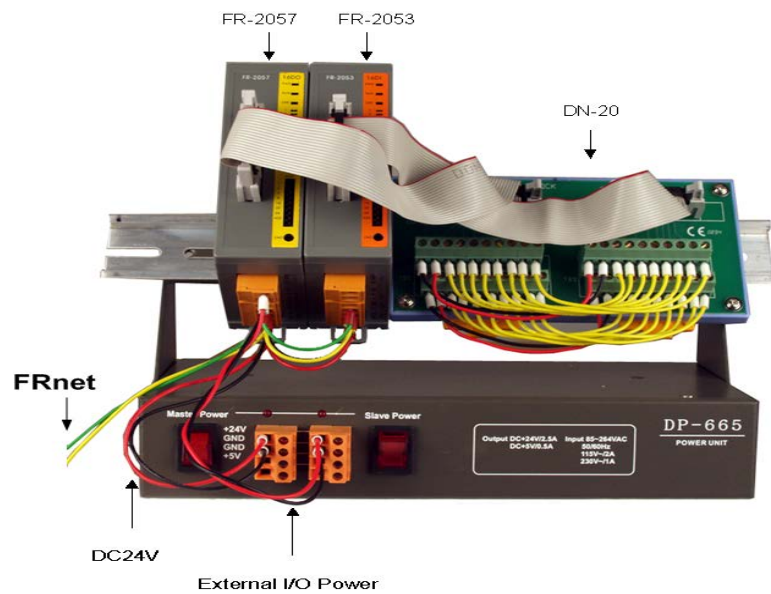

Figure 7.1
- Step 1: Connect the FR-2053 and the FR-2057(Refer to figure 7.1).